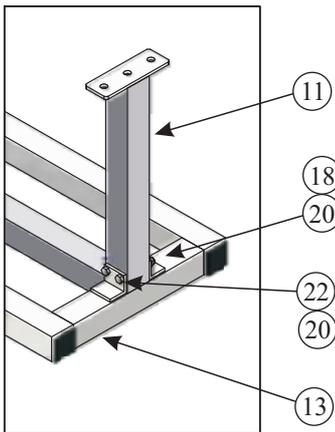

Figure 13.
8.) Attach the end seat supports (11) to the horizontal seat support (13) by fixing through the brackets with BOL472 (22) and fixing with a skiffy washer, both sides, and a nylock nut (Figure 13).